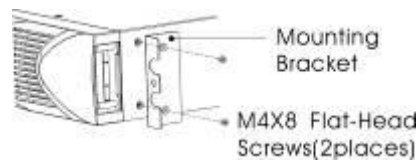

Figure3 Installing the Mounting Brackets
- i) Align the mounting brackets with the screw holes on each side of the UPS and fix with the supplied M4×8 flat-head screws(see Figure 3)